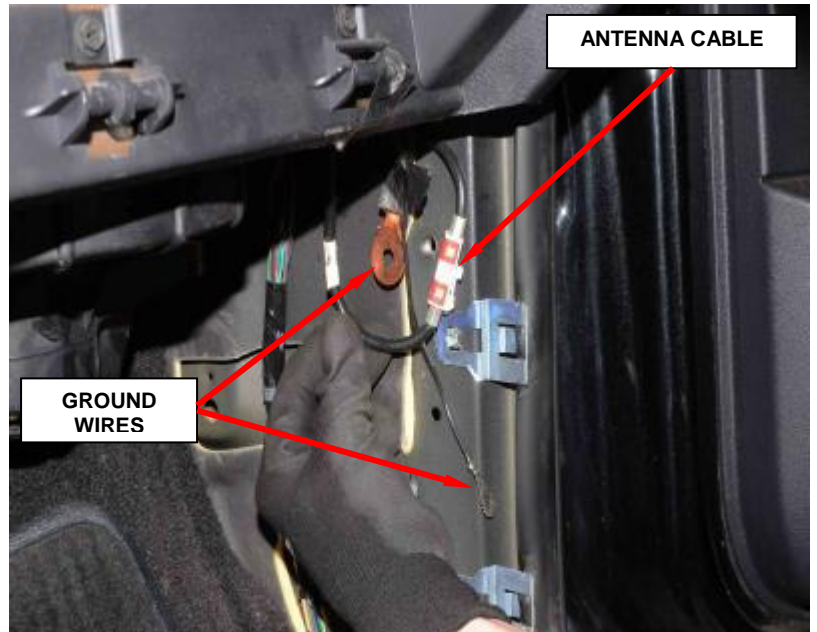

Figure 88 – Ground Bolt and Nut
26. Remove the bolt and nut and disconnect the grounds on the right A-pillar (Figure 88).
27. Disconnect the antenna cable (Figure 88).